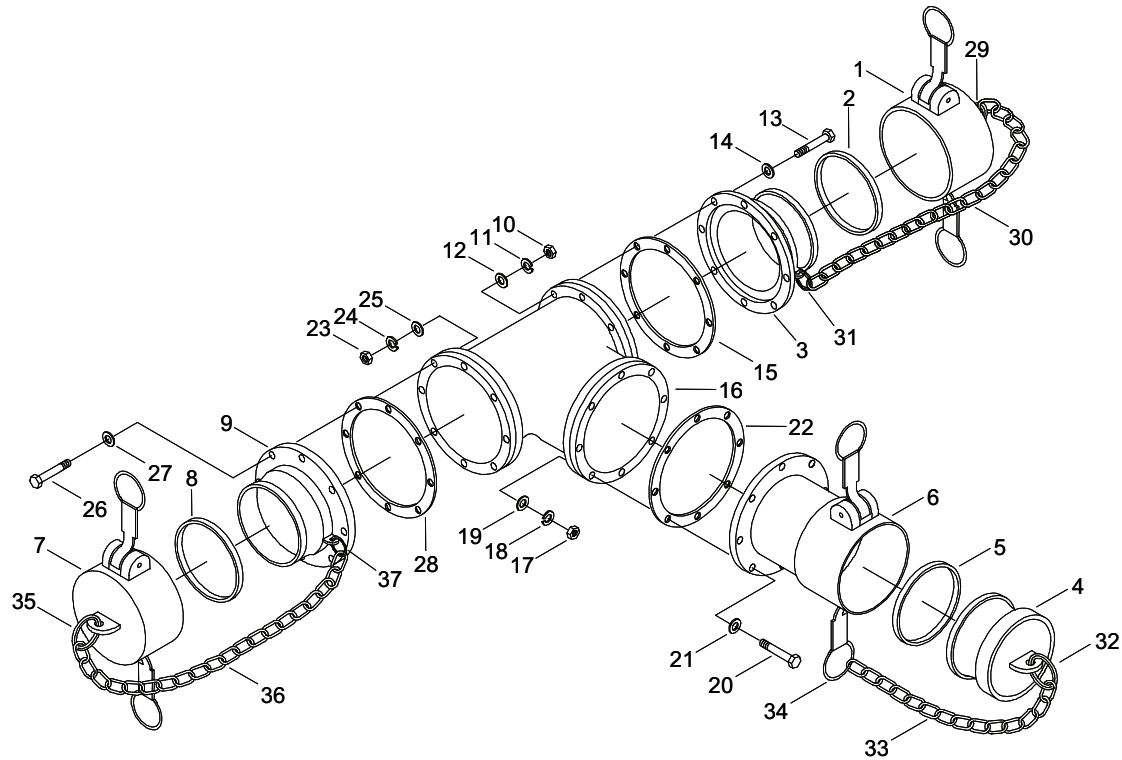

Figure 1. 4 In. Female X 4 In. Male X 4 In. Female Tee Assembly.
1. Remove quick disconnect dust cap (Figure 1, Item 1) and gasket (Figure 1, Item 2) from coupling (Figure 1, Item 3).
2. Remove quick disconnect dust plug (Figure 1, Item 4) and gasket (Figure 1, Item 5) from coupling (Figure 1, Item 6).
3. Remove quick disconnect dust plug (Figure 1, Item 7) and gasket (Figure 1, Item 8) from coupling (Figure 1, Item 9).
4. Discard gaskets (Figure 1, Item 2, 5, 8).
5. Remove eight nuts (Figure 1, Item 10), eight lock washers (Figure 1, Item 11), eight flat washers (Figure 1, Item 12), eight bolts (Figure 1, Item 13), eight flat washers (Figure 1, Item 14), coupling (Figure 1, Item 3) and gasket (Figure 1, Item 15) from tee (Figure 1, Item 16).
6. Discard gasket (Figure 1, Item 15) and lock washers (Figure 1, Item 11).
7. Remove eight nuts (Figure 1, Item 17), eight lock washers (Figure 1, Item 18), eight flat washers (Figure 1, Item 19), eight bolts (Figure 1, Item 20), eight flat washers (Figure 1, Item 21), coupling (Figure 1, Item 6) and gasket (Figure 1, Item 22) from tee (Figure 1, Item 16).
8. Discard gasket (Figure 1, Item 22) and lock washers (Figure 1, Item 18).
9. Remove eight nuts (Figure 1, Item 23), eight lock washers (Figure 1, Item 24), eight flat washers (Figure 1, Item 25), eight bolts (Figure 1, Item 26), eight flat washers (Figure 1, Item 27), coupling (Figure 1, Item 9) and gasket (Figure 1, Item 28) from tee (Figure 1, Item 16).
10. Discard gasket (Figure 1, Item 28) and lock washers (Figure 1, Item 24).
11. Remove split ring (Figure 1, Item 29) from quick disconnect dust cap (Figure 1, Item 1).
12. Remove split ring (Figure 1, Item 29) from chain (Figure 1, Item 30).
13. Remove split ring (Figure 1, Item 31) from coupling (Figure 1, Item 3).
14. Remove split ring (Figure 1, Item 31) from chain (Figure 1, Item 30).
15. Remove split ring (Figure 1, Item 32) from quick disconnect dust plug (Figure 1, Item 4).
16. Remove split ring (Figure 1, Item 32) from chain (Figure 1, Item 33).
17. Remove split ring (Figure 1, Item 34) from coupling (Figure 1, Item 6).
18. Remove split ring (Figure 1, Item 34) from chain (Figure 1, Item 33).
19. Remove split ring (Figure 1, Item 35) from quick disconnect dust plug (Figure 1, Item 7).
20. Remove split ring (Figure 1, Item 35) from chain (Figure 1, Item 36).
21. Remove split ring (Figure 1, Item 37) from coupling (Figure 1, Item 9).